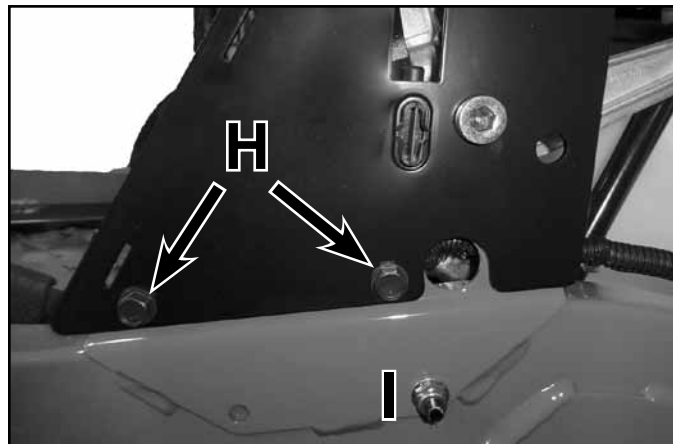

Fig. 025
11. Remove the (4) fasteners (H) that secure the Control Box to the frame.
12. Remove the (2) nuts and (2) carriage bolts (I) that secure the Control Box to the frame (Fig. 025).